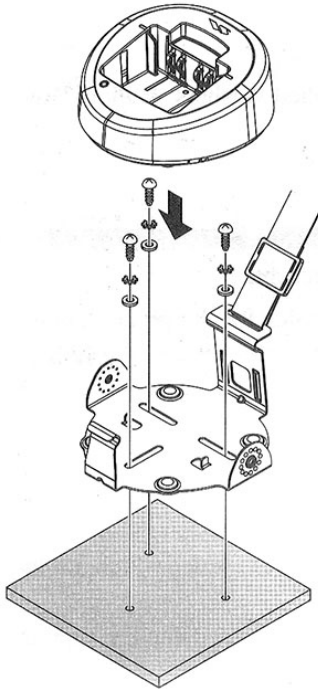

FIGURE 6
- You may secure the Charger Stand to the vehicle directly with the Bracket "**B**" (Figure 6 of the back page).